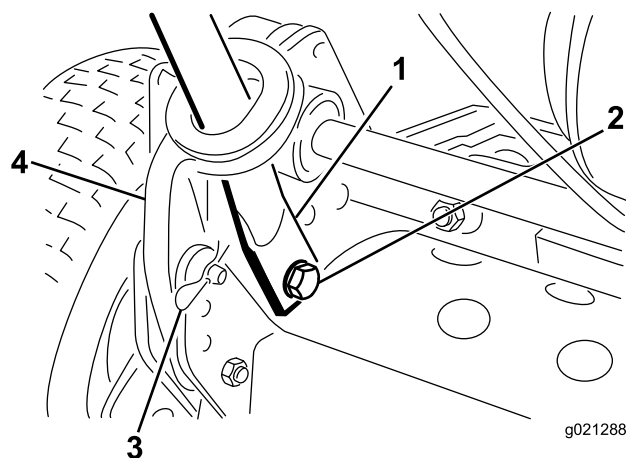

Figure 3
4. Squeeze the handle ends inward and install them on the mounting pins (Figure 3).
5. Secure the handle ends to the mounting pins with the bolts, washers, and lockwashers previously removed (Figure 3).
6. Secure the handle arms to the rear of the frame with the hairpin cottes and ring pins previously removed (Figure 3).